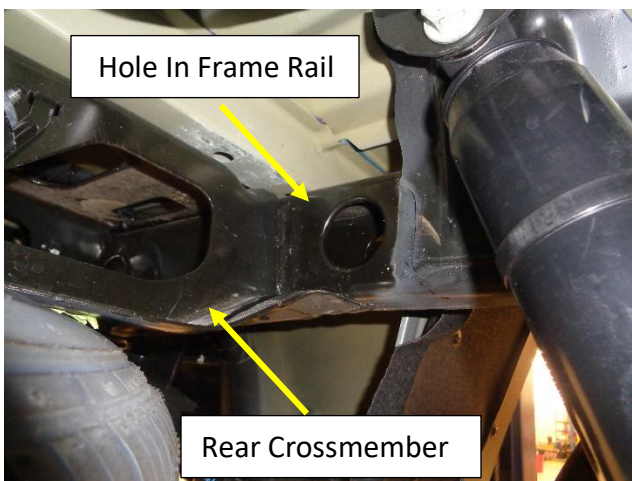

Figure.6
10. Locate the large round hole in the left frame rail just behind the shock. Fig. 6